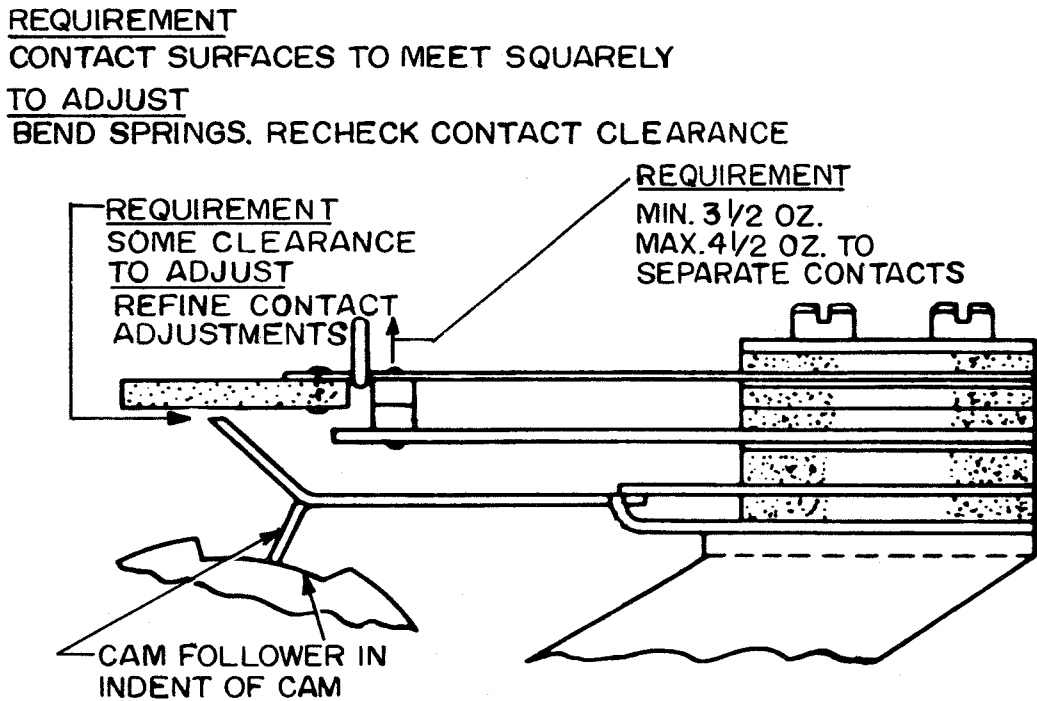

Figure 28B
(2) Tip of Camfollower in Cam-indent: See Figure 28B.